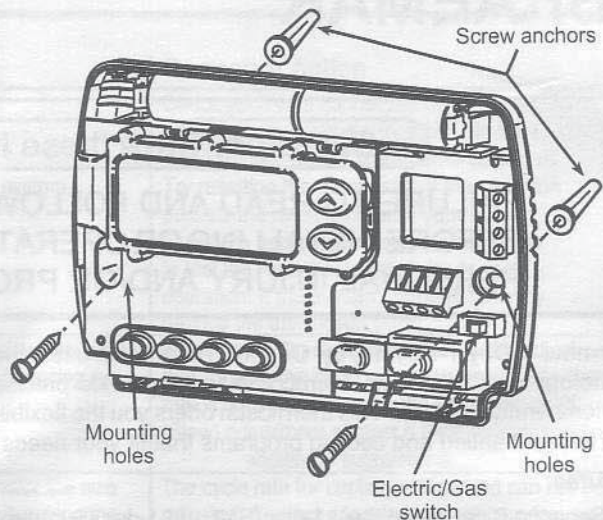

Figure 1. Thermostat Base
This thermostat is configured from the factory to operate a heat/cool, fossil fuel (gas, oil, etc.), forced air system. It is configured correctly for any system that DOES NOT require the thermostat to energize the fan on a call for heat. If your system is an electric heat or heat-pump system that REQUIRES the thermostat to turn on the fan on a call for heat, locate the **ELECTRIC/GAS switch** on the back of the thermostat (see fig. 1) and switch it to the **ELECTRIC** position. This will allow the thermostat to energize the fan immediately on a call for heat. If you are unsure if the heating/cooling system requires the thermostat to control the fan, contact a qualified heating and air conditioning service person.
5. Fasten base loosely to wall, as shown in fig. 1, using two mounting screws. Place a level against bottom of base, adjust until level, and then tighten screws. (Leveling is for appearance only and will not affect thermostat operation.) If you are using existing mounting holes, or if holes drilled are too large and do not allow you to tighten base snugly, use plastic screw anchors to secure subbase.
If "BATT" is displayed, the batteries are low and should be replaced with fresh "AA" Energizer® alkaline batteries. To replace batteries, install the batteries along the top of the base (see Fig. 1). The batteries must be installed with the positive (+) end to the left.